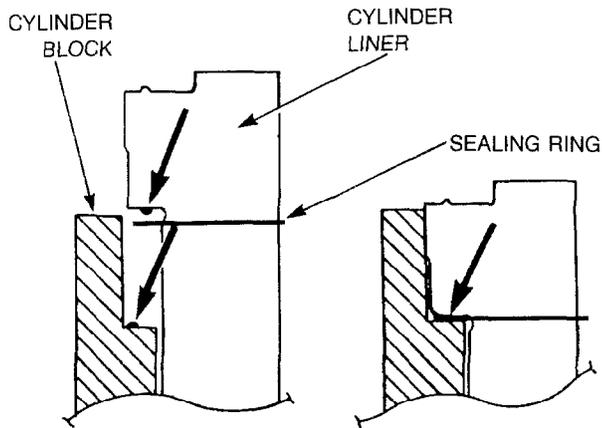

Figure 39 — Applying RTV Sealant to Cylinder Liner
- c. Apply a bead of RTV sealant Part Number 33801048, 1.20-1.58 mm (0.0468-0.0625 in.) wide to the cylinder block counterbore ledge and the cylinder liner flange (see Fig. 39).